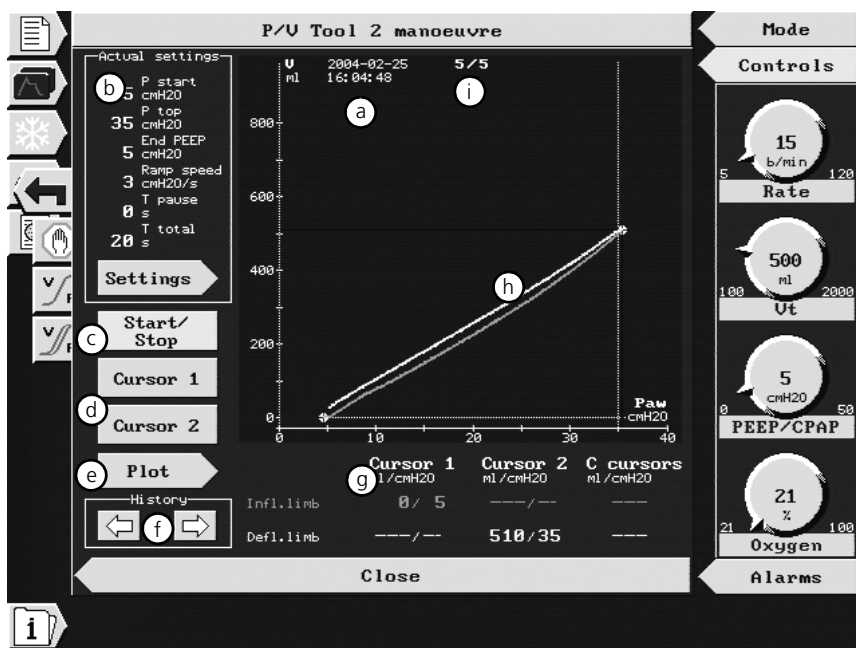

Figure 7-6. P/V Tool 2 window
2. Select and activate **OK** to continue. The P/V Tool 2 window will open (Figure 7-6).
The history features lets you monitor patient change and treatment effectiveness over time. Select and activate the arrows in the **History** box (Figure 7-6) to call up a curve from any of the previous maneuvers. The number of stored curves depends on the storage required to hold them; the number is at least 5.